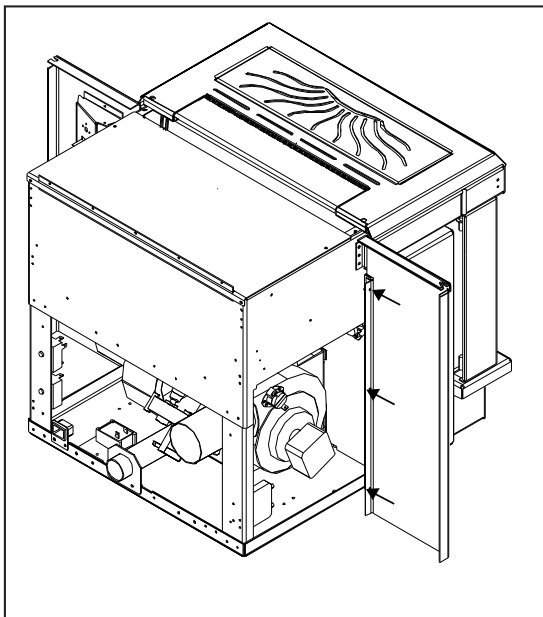

Figure 30: Panel placed on unit.
2. Using three (3) T-20 screws on each side attach the hinges on the side surround panels to the unit's side panels (refer to Figure 30).